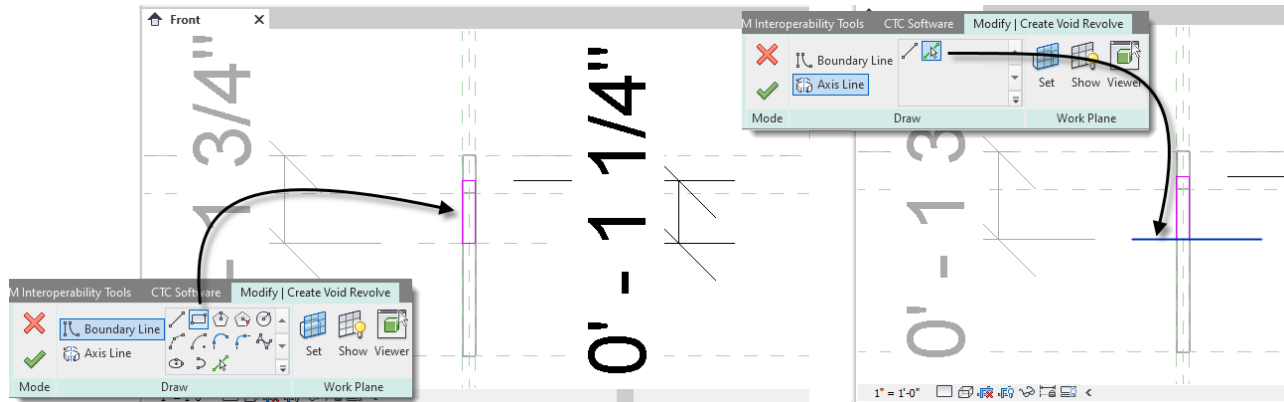

Figure 22
7. Click the Modify tool to cancel. Select the circle and on the Properties palette, check the Center Mark Visible checkbox (see the left side of Figure 22).
9. In the Draw toolbox, click the Pick Lines tool and then click on the Void Center reference plane (see the right side of Figure 22).